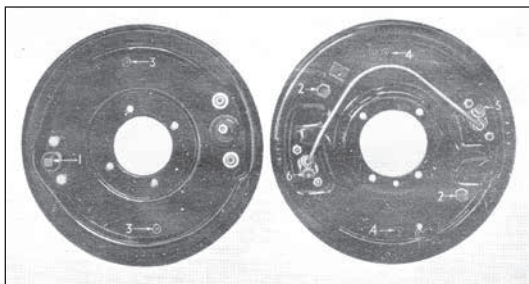

Figure L.7. Reverse of front and rear brake plates.
1. Fit the wheel cylinders firmly to the back plate (Figure L.7).